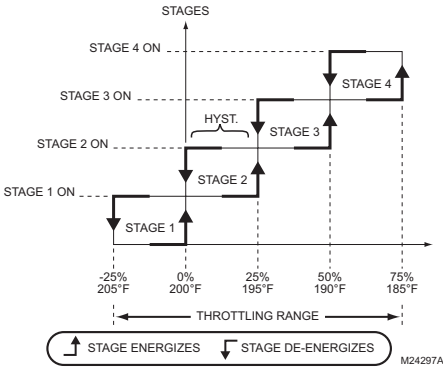

Fig. 18. Staging Behavior (when effective Setpoint = 200°F).
Staging occurs as illustrated in Fig. 18 for a Heat setpoint of 200°F and a throttling range of 20°F when the Integral value is zero (0). When the Integral is not zero, then the actual temperatures at which stages energize and de-energize will vary from this example; see "1.3.4.2. INTEGRAL" on page 18.